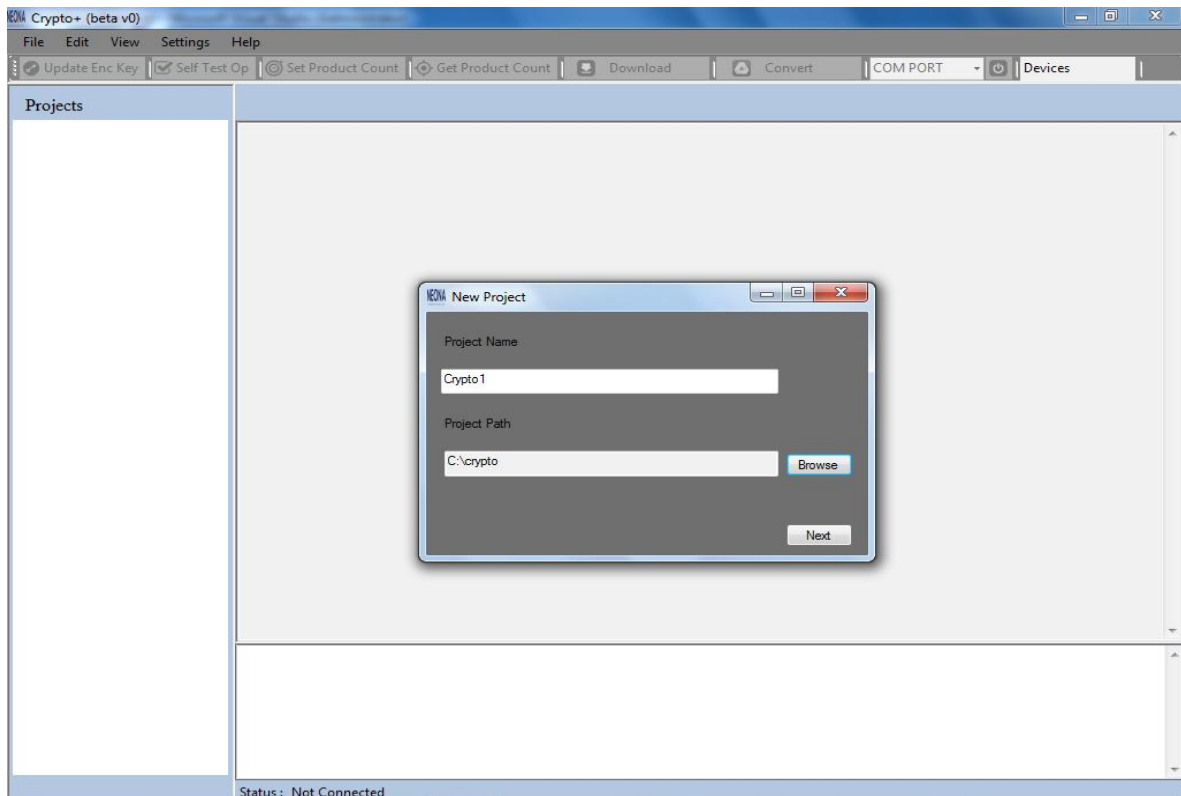

**Figure2.11**
**STEP 1:** To create a new project, start the application & click on **New Project** button as shown in figure 2.11 or if the application is already opened, then new project can be created from **File->New Project** as shown in figure 2.12.